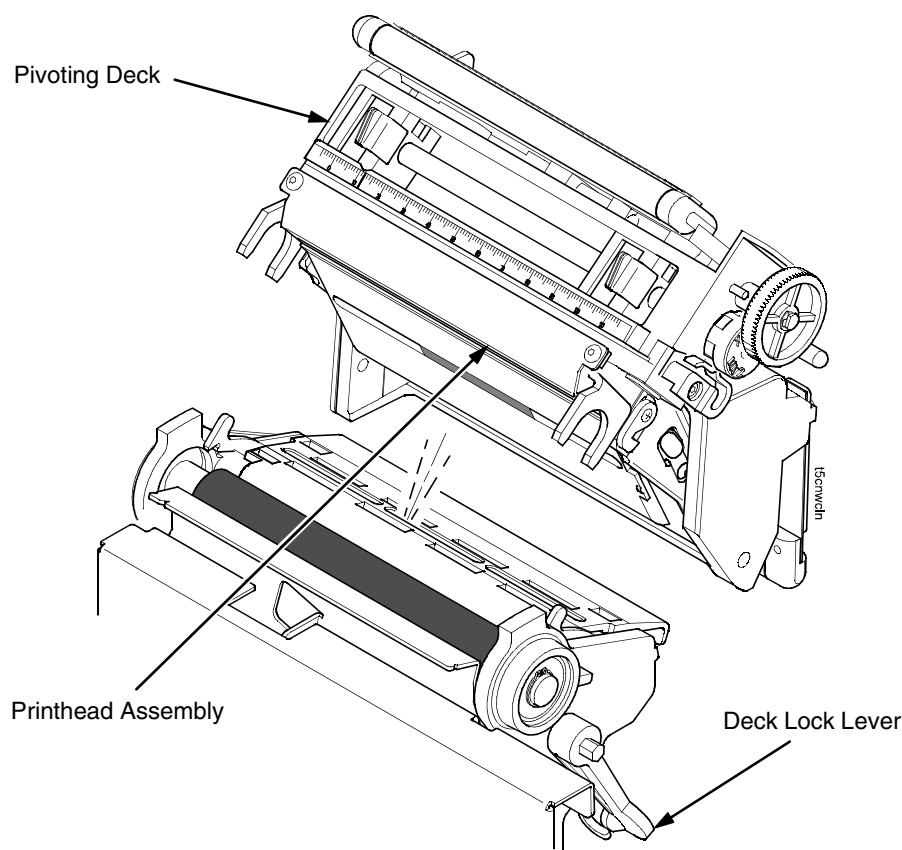

Figure 8. Opening the Pivoting Deck
3. Close the pivoting deck and rotate the deck lock lever fully counterclockwise. (Figure 8.)